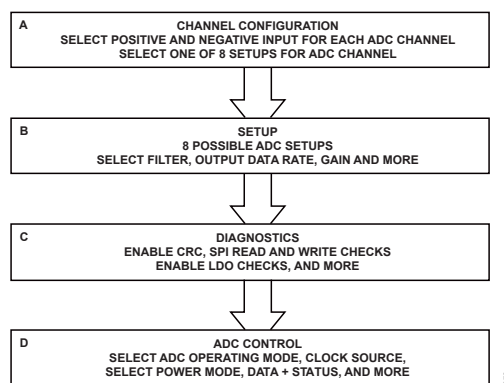

Figure 68. Suggested ADC Configuration Flow
Figure 68 shows an overview of the suggested flow for changing the ADC configuration, divided into the following four blocks:
- Channel configuration (see Box A in Figure 68)
- Setup (see Box B in Figure 68)
- Diagnostics (see Box C in Figure 68)
- ADC control (see Box D in Figure 68)